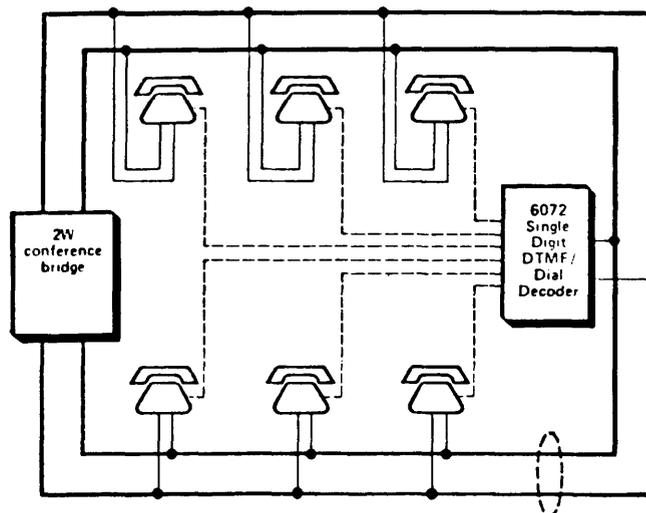

FIGURE 1
3.01 The 6072 Single Digit DTMF/Dial Decoder is typically used in applications requiring selective signaling or control functions from a single input digit. When used in TELLABS' 291 Conference/Alerting System, for example, the 6072 provides the means for any conference subscriber to activate a community siren by depressing the (\*) pushbutton of the conference telephone set. The 6072 can also provide the dispatcher with the means to selectively signal up to 12 separate groups of conference stations, thus permitting the dispatcher to call only those crewmen required for a particular emergency. Figure 1 shows a typical circuit arrangement. In this example, the 6072 is used on a local party line circuit to provide selective signaling for up to 12 stations. The 6072 permits any station on the party line to access any other station by dialing a single digit. Since all the stations are in close proximity to each other, the required signaling and reset leads are metallic loops connected directly from the 6072. Because of its inherent flexibility, the 6072 is also suitable for remote telemetry applications.